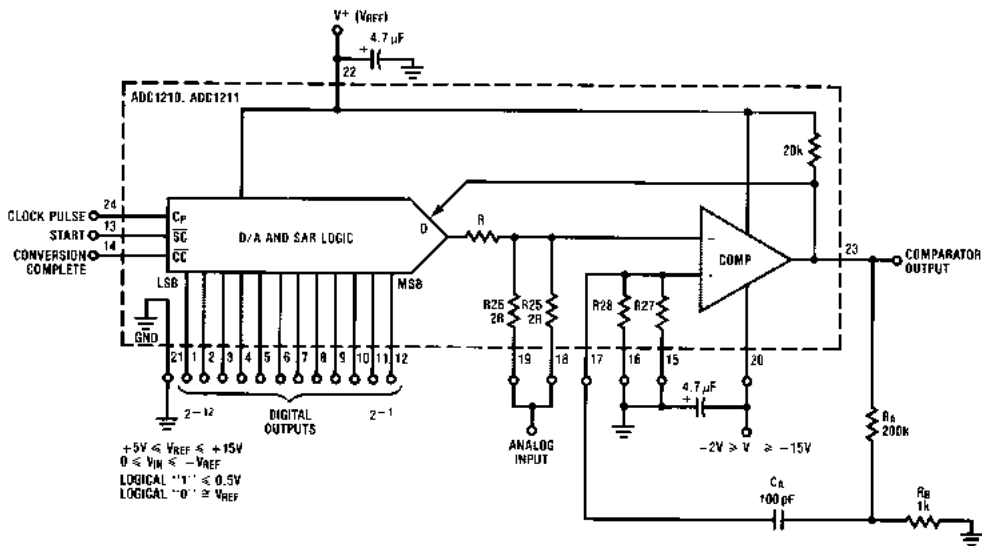

FIGURE 2. Complementary Logic, 0V to  $-V_{REF}$  Input
*Figures 2* through *5* show four operating configurations in addition to those presented in the data sheet.
The recommended technique is to apply a slight amount of AC hysteresis (50 mV) at the beginning of the decision cycle, but let it decay away to an acceptable accuracy before the decision is actually recorded in the SAR. The approximate decay time is  $(5) \times (10\text{k} + 1\text{k}) \times (100\text{ pF})$ , or 5.5  $\mu\text{s}$  (see Figure 2).
For those applications using supply voltage other than 10V, say 5V, and if 50 mV initial hysteresis is to be maintained, the 200 k $\Omega$  ( $R_A$ ) resistor in Figure 2 should be changed to 100 k $\Omega$  based on the relationship: